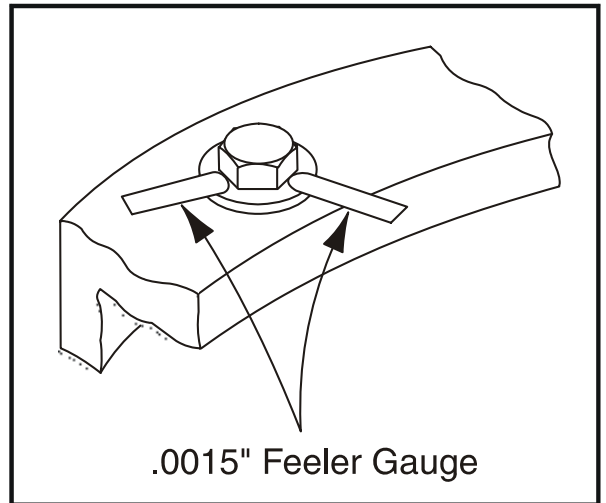

Figure 3-12. Swing Bearing Feeler Gauge Check
- b. At the positions indicated on Figure 3-12. try and insert the 0.0015" feeler gauge between the bolt head and hardened washer at the arrow indicated position.
- d. At the position indicated on Figure 3-12. try and insert the 0.0015" feeler gauge between the bolt head and hardened washer at the arrow indicated position.